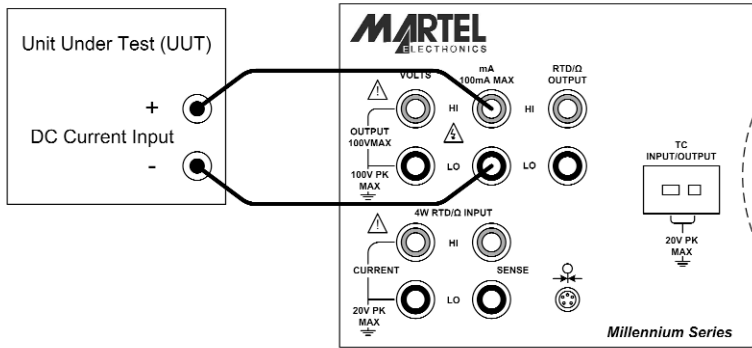

Figure 11 - DC Current Output Connection
- c) Connect the unit under test to the current output terminals of the 3001 as shown in figure 11.